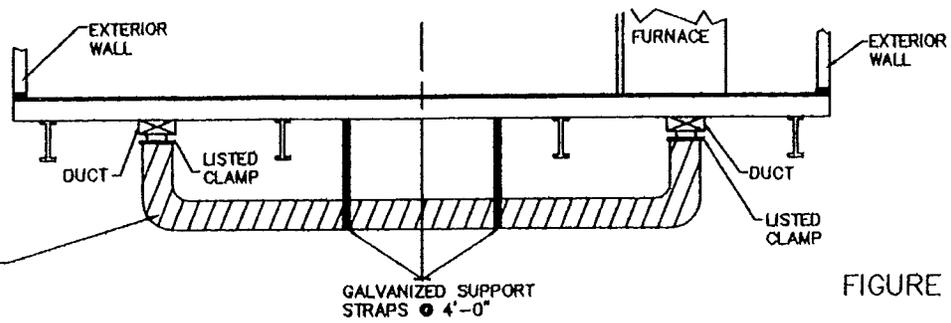

FIGURE 3-8
**3-8.1** On multi-section homes, the flow of conditioned air from one section to the other(s) is accomplished by a crossover ducting system. For homes having a main duct in each floor section, the crossover may be one or more large diameter flexible ducts, which are required to be suspended under the floor and above the ground, intended to connect the furnace to each duct or one duct to another. For homes having only one main duct, the crossover will be made up of several smaller flexible ducts passing through or beneath the perimeter joist along the mating line of each floor section. (See figures 3-8 through 3-12)